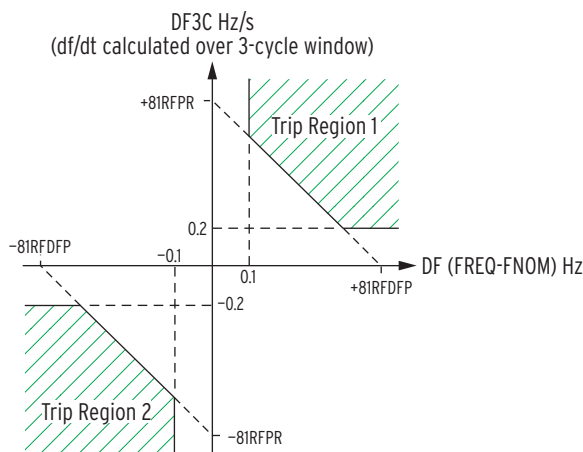

Figure 5 81RF Characteristic Power Element Protection
The fast rate-of-change-of-frequency protection, 81RF, provides a faster response compared to frequency (81) and rate-of-change-of-frequency (81R) elements. Fast operating speed makes the 81RF element suitable for detecting islanding conditions. The element uses a characteristic (see *Figure 5*) based on the frequency deviation from nominal frequency ($DF = \text{FREQ} - \text{FNOM}$) and the rate-of-change of frequency (DF3C) to detect islanding conditions.